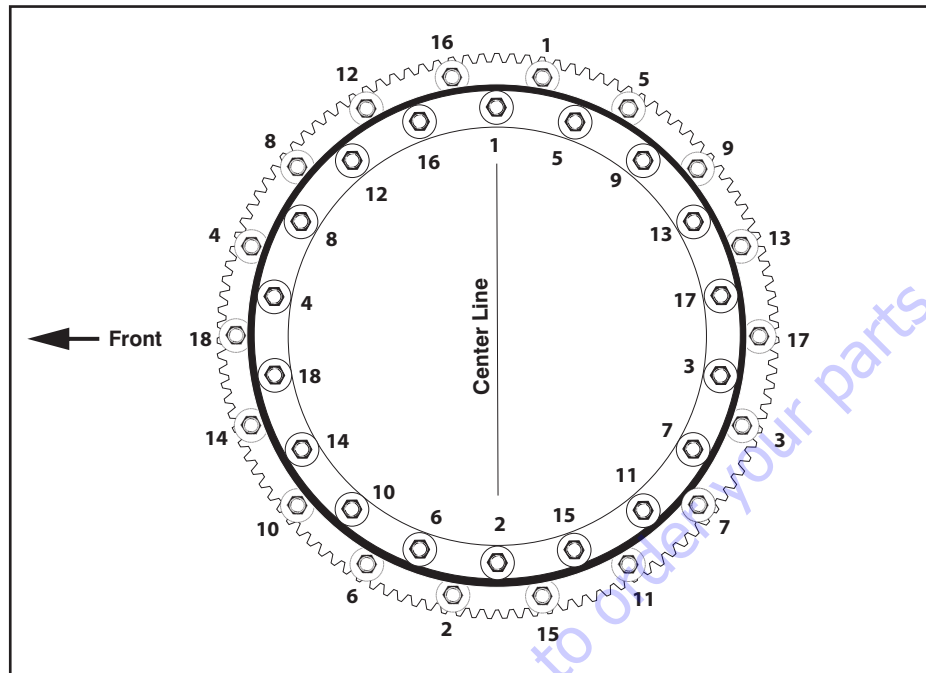

Figure 3-57. Swing Bearing Torque Sequence
3. See Figure 3-57. Swing Bearing Torque Sequence.